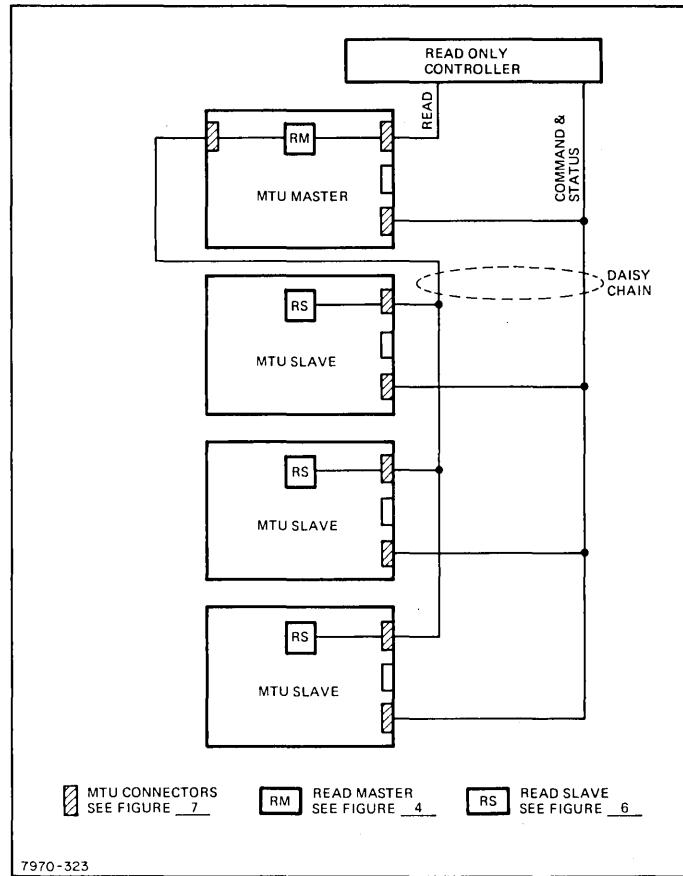

Figure 2. Read-Only 1600 CPI Phase-Encode Configuration
**b. READ-ONLY** (9- Track PE Read-Only). Both master and slave units contain the same command-and-status electronics. (See figure 2.) Complete PE read data electronics is